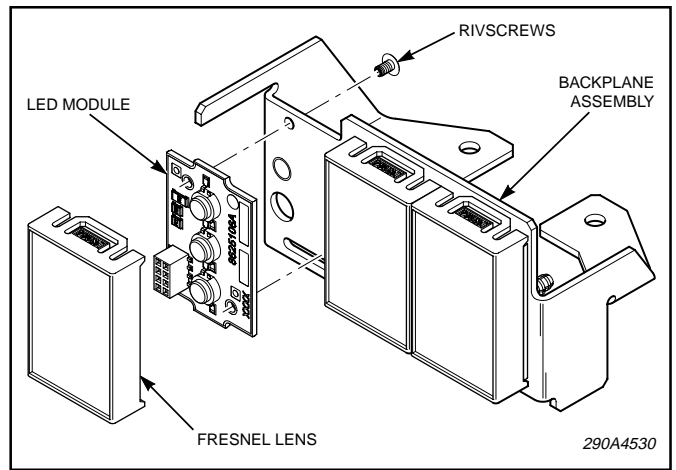

Figure 9.
- e. See figure 9. Remove and discard the Rivscrews retaining the LED module to the backplane. Remove the LED module.